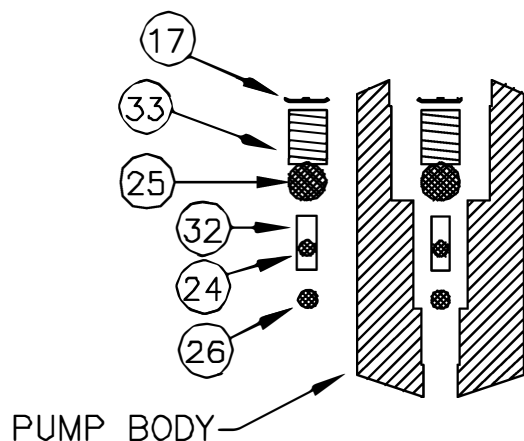

FIGURE 13
4. Wash balls 24, 25, 26, and springs 32 and 33 in an approved cleaning solvent and dry thoroughly (see Figure 13).
1. Assemble the bypass valve by reversing steps 1 and 2 of REMOVAL OF BYPASS VALVE BALL (see Figure 13).